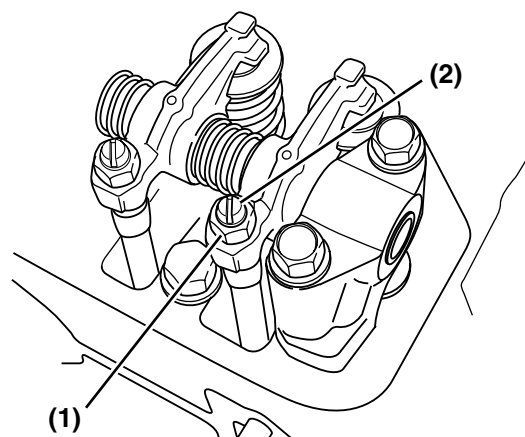
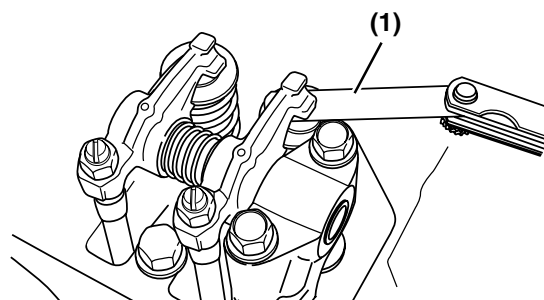

Figure 6-75
Figure 6-76
5. Loosen the valve adjusting screw lock nut (Figure 6-75, (1)) and valve adjusting screw (Figure 6-75, (2)) on the rocker arm and check the valve for inclination of the valve cap, entrance of dirt, or wear.
6. Insert a feeler gauge of the correct thickness (Figure 6-76, (1)) (see *Adjustment Specifications* on page 6-6) between the rocker arm and valve cap. Turn the valve adjustment screw to adjust the valve clearance so there is a slight "drag" on the feeler gauge when sliding it between the rocker arm and the valve cap. Hold the adjusting screw while tightening the valve adjusting screw lock nut (Figure 6-75, (1)). Recheck the clearance.